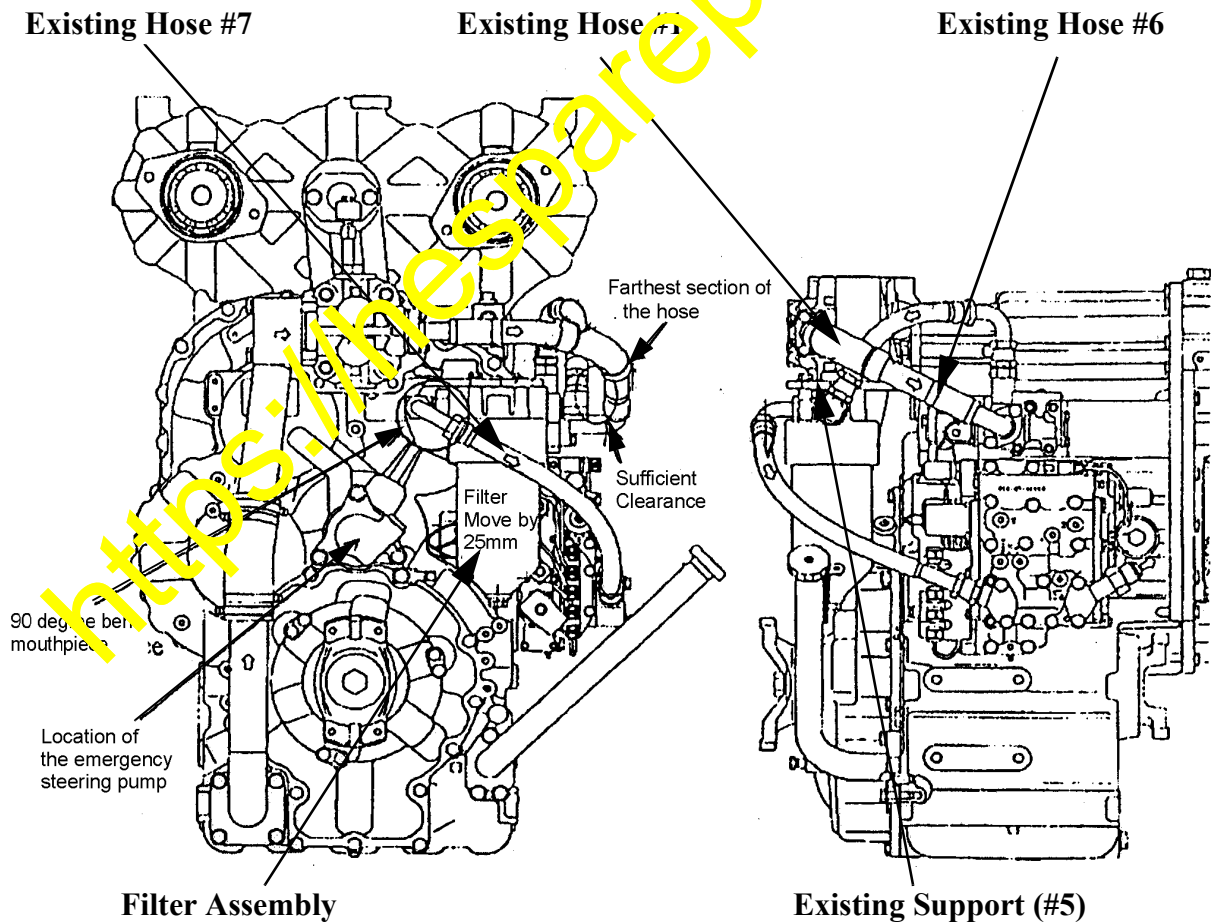

Figure 5
2. Remove the existing hoses #1, #6 and #7 and discard them. See Figure 5.